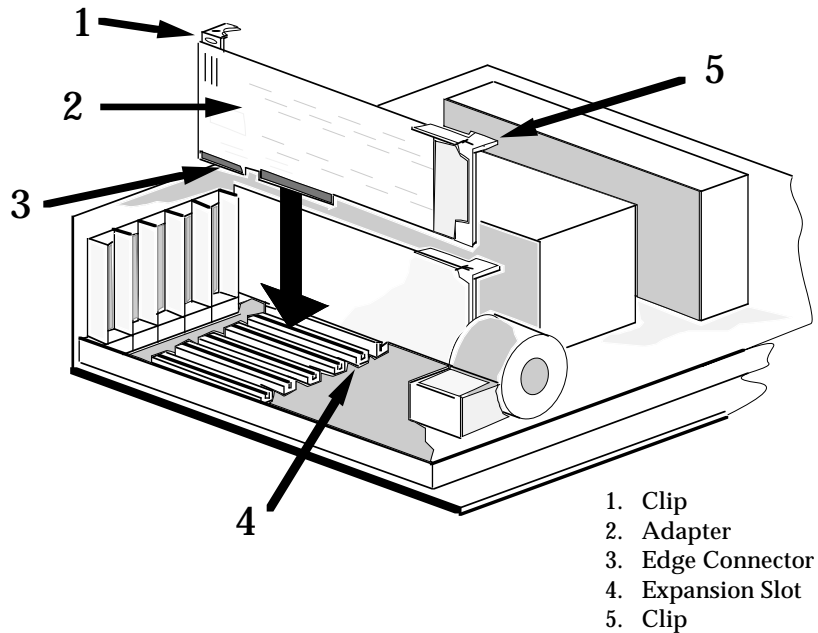

Figure 2-11. Installing the E3100 Series Adapter
- Orient the adapter (2, Figure 2-11) so the PC edge bus connector (3) is pointed down and the ports face out the back of the PC as shown in Figure 2-11.
- Align the adapter so the PC bus edge connector is lined up with the expansion slot (4) as shown in Figure 2-11.
- Slide the adapter into the guide slots and firmly press, but do not force, the adapter into the expansion slot. The plastic clips on the adapter (1, 5, Figure 2-11) will snap into place as the adapter is inserted into the expansion slot.